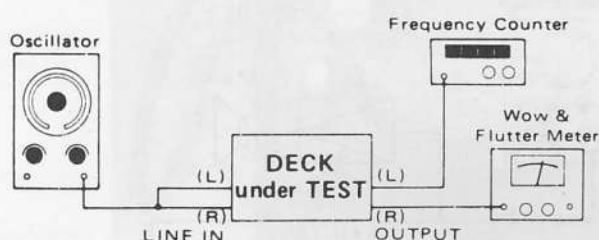

Fig. 4-1
1. Connect a wow-and-flutter meter to the deck as shown in Fig. 4-1.
1. Connect a frequency counter to the deck as shown in Fig. 4-1.